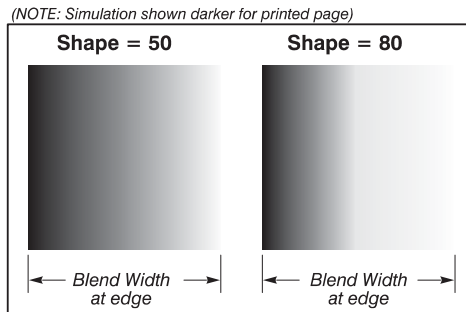

Figure 3-44 "Shape" Examples
- **Blend Shape** determines the rate of roll-off across the blend width, i.e. how quickly the white levels across the blend change from light and dark. Increasing the **Blend Shape** setting accelerates the rate of change at both extremes so that less of the region appears mid-gray (refer to Figure 3-44).